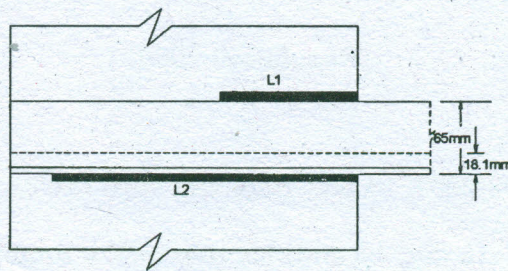

Fig. 1.
- (b) A tie member of a truss consisting of an angle section ISA 65 × 65 × 6 of Fe 410 grade is welded to an 8-mm gusset plate. Design a weld to transmit a load equal to the full strength of the member. Assume shop welding. Ref Fig.1. (16)